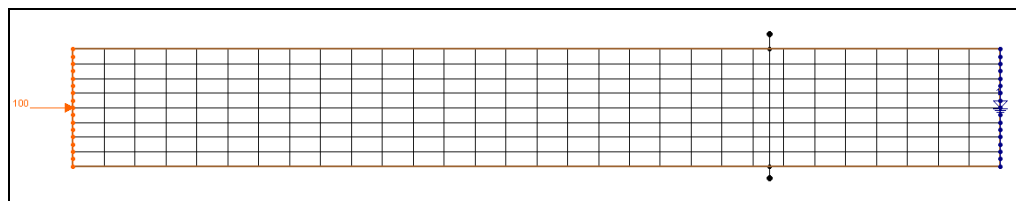

Figure 12 Channel #3 showing placement of observation arc.
8. Create an observation arc across the flume from top to bottom at about 200 m from the downstream boundary as shown in Figure 12.